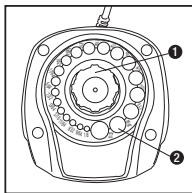

Figure 1
- Step 1.** Make sure that On/Off Switch (3) is in the off position, then plug in the device.
- Step 2.** Clean the drill bit to be sharpened then insert to appropriate hole of Drill Holder (2) on the top. The specification can be read from the cover. Refer to Figure 1.